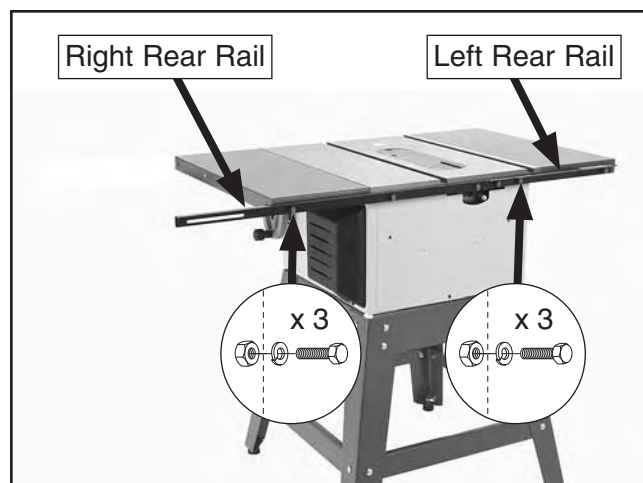

Figure 19. Rear rail installed.
16. Install the left rear rail onto the table and left extension wing with (3) M8-1.25 x 20 hex bolts, (3) 8mm lock washers, and (3) M8-1.25 hex nuts, as shown in **Figure 19**. Do not fully tighten at this time.